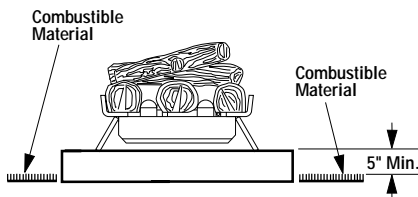

Figure 6
**Step 5. Floor clearance:** If combustible flooring materials, such as carpeting or asphalt tile, are to be located within 14" of the fireplace or firebox opening, the room heater base must be at least 5" above the combustible flooring material (Figure 6).